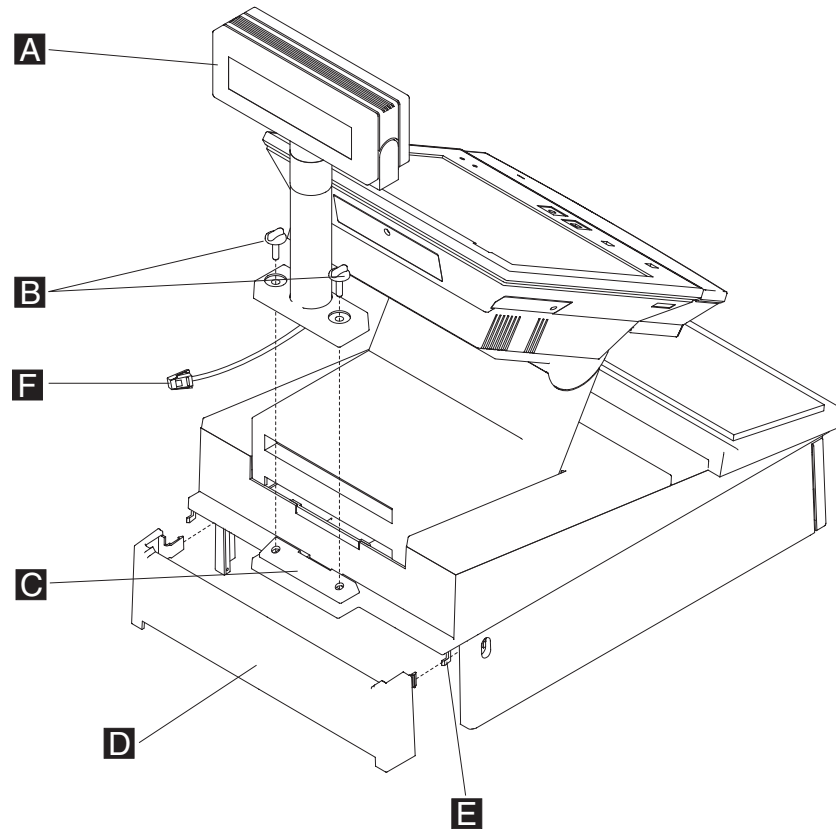

Figure 45. Remove the distributed character display from a full-size integration tray
- b. Unroute the distributed character display cable **F** to enable the distributed character display to be removed, as show in Figure 45.